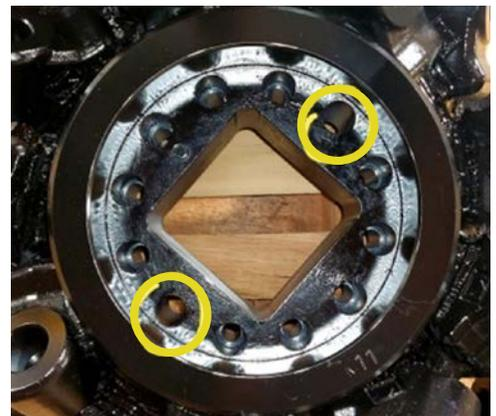
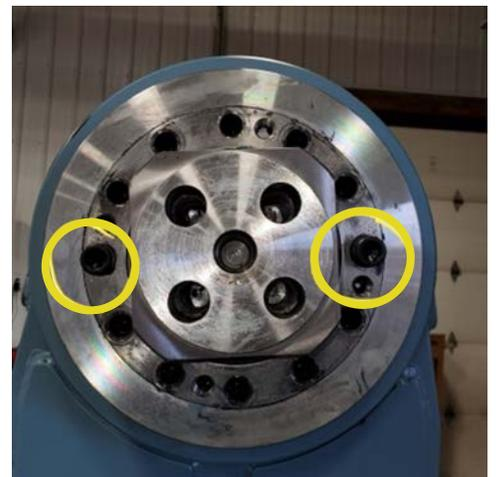

Figure 1. Align drum through holes with shrink disc bolt heads
Figure 2. Shrink disc with bolt heads
2. Carefully lower the drum down onto the shaft making sure to line up the through holes on the drum with the bolt heads protruding from the shrink disc. Figure 1 & figure 2.